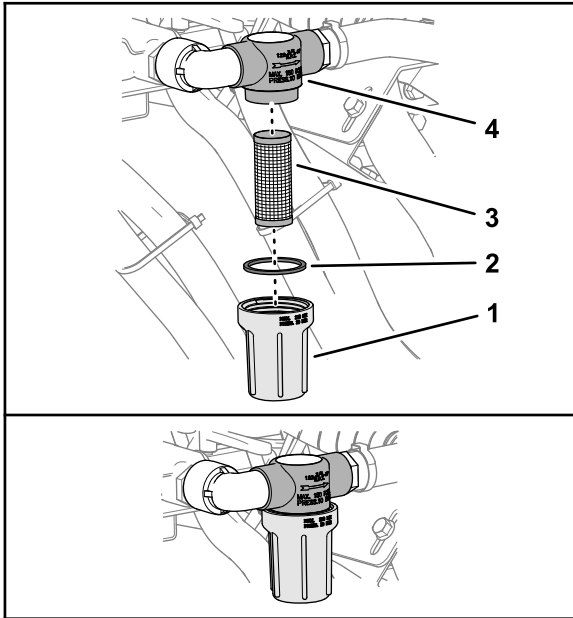

Figure 54
3. Rotate the strainer bowl counterclockwise and remove the bowl and screen from the body of the strainer (Figure 54).
6. Install the screen into the strainer body (Figure 54).
7. Install the gasket and strainer bowl onto the strainer body, and hand tighten the bowl (Figure 54).